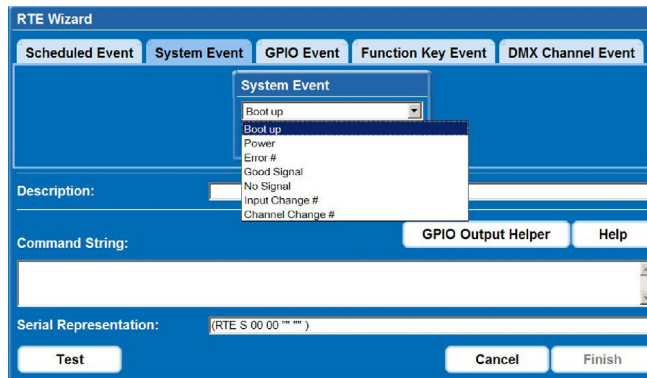

FIGURE 4-18 ADD SYSTEM EVENT
3. Select a type of event from the **System Event** drop-down list. **NOTE:** *Depending on the selection made, additional selections are made available in the second drop-down list located underneath (i.e. Input Change > Input 1, Slot 1). See Figure 4-18 Add System Event.*